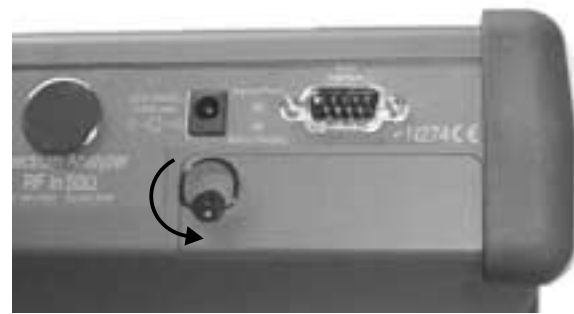

Figure 7. Rotate the Battery Access Door Handle
2. Lift up the access door handle and rotate it 90 degrees counterclockwise, as illustrated in Figure 7.